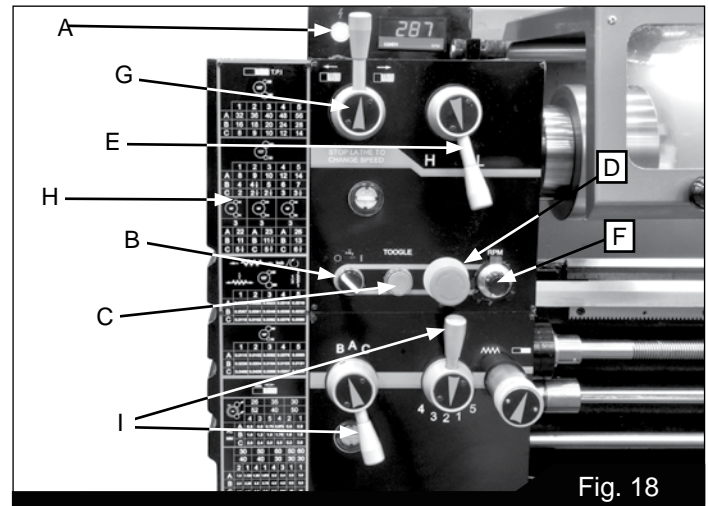

Fig. 18
- **Power Indicator Light (A, Figure 18).**
- **Coolant On-Off Switch (B, Figure 18).**
- **Jog Button (C, Figure 18).**
- **Emergency Stop Button (D, Figure 18).**
- **Motor Speed Switch (E, Figure 18).**
- ### 2. **Speed Selection Levers (F, Figure 18):** Move levers left or right to desired spindle speed, according to accompanying chart.
- ### 3. **Feed Direction Knob (G, Figure 18):** Rotating the knob changes direction of feed. Center position is neutral.
4. **Lead and Feed Selector Levers (I, Figure 18):** Used conjunctively to set up for threading or feeding, according to the accompanying chart (H, Figure 18).